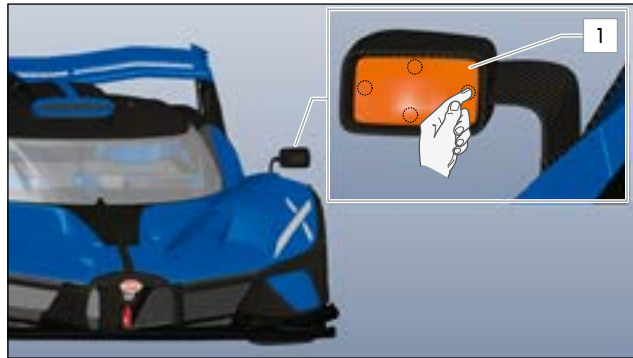

FIG.60 EXTERIOR MIRROR ON THE DRIVER'S SIDE
- ▶ Adjust the exterior mirror 1 (» Fig.60) so that you as the driver have an optimum view to the rear.